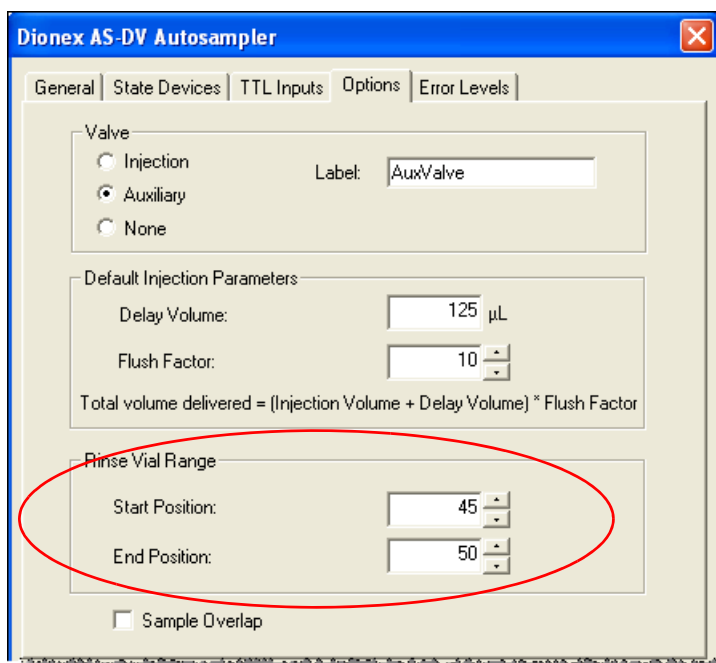

Figure 3-12. Dionex AS-DV Configuration Properties Dialog Box: Options Tab Page
1. To define the rinse vial range, start the Chromeleon 7 Instrument Configuration Manager or Chromeleon 6.8 Server Configuration program and open the AS-DV Properties dialog box. Click the **Options** tab. Under **Rinse Vial Range**, define a range of vial positions to be reserved for rinse vial use only (see Figure 3-12).